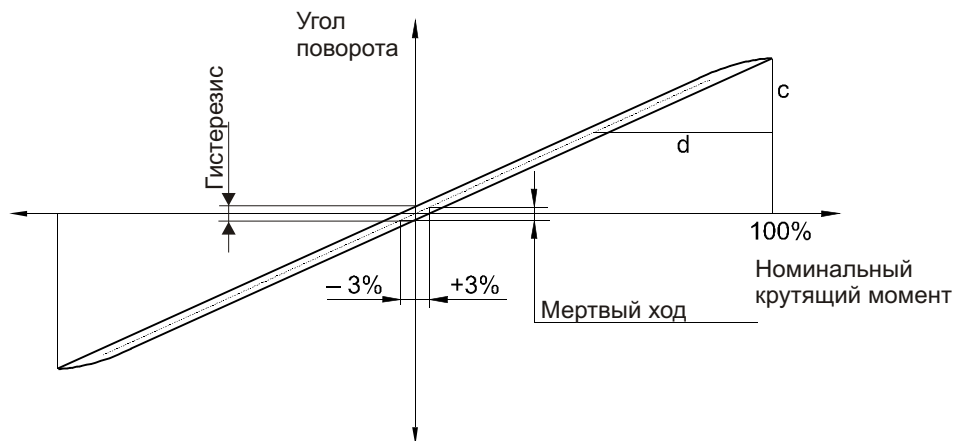

Рис. 3.7a: Hysteresis curve and the definition of stiffness / Петля гистерезиса и определение жесткости
If the input shaft and the case are fixed and a torque is applied to the output flange, then the load diagram has a shape of a hysteresis curve (Fig. 3.7a).
Lost motion (LM) is a pitch angle of the output flange at ±3% nominal torque measured on the centerline of the hysteresis curve (Fig. 3.7a).